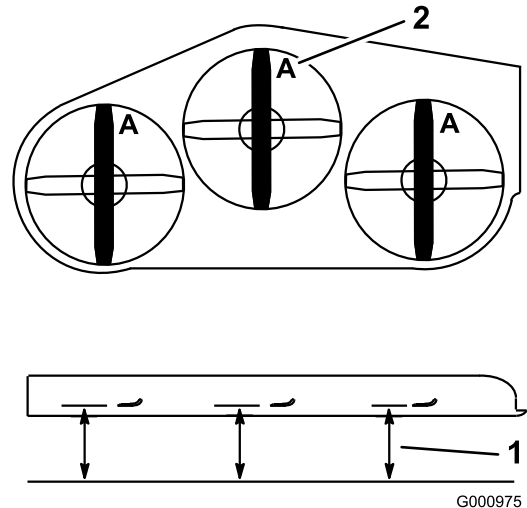

Figure 68
2. Measure from a level surface to the cutting edge, position A, of the blades (Figure 68).